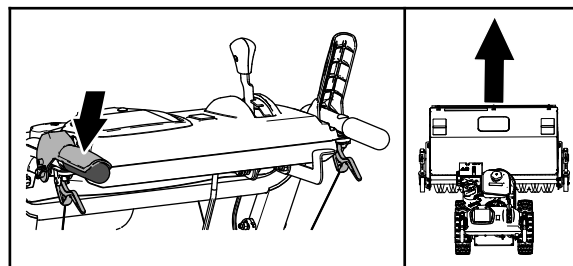

Figure 15
- To drive straight, squeeze the traction-drive lever but do not squeeze the wheel-clutch levers (Figure 15).